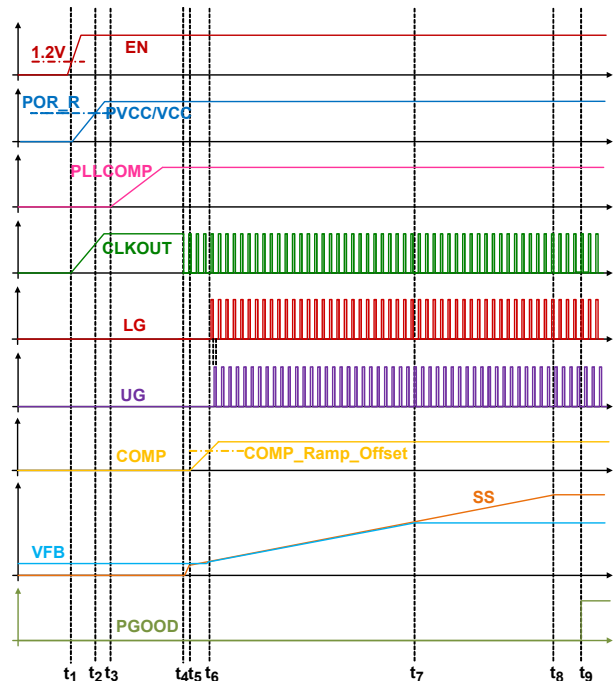

FIGURE 67. CIRCUIT INITIALIZATION AND SOFT-START
- There is no limit for the minimum voltage on the TRACK pin, but note the lower reference voltage and the lower voltage feedback regulation accuracy. Note the SS\_DONE signal is checking  $V_{REF\_TRK} \geq 0.3V$  as one of the conditions (refer to the  $t_g$ - $t_g$  description on page 31 and Figure 67 on page 30). Also, for the boost converter, the regulated output minimum voltage is usually the input voltage minus the upper MOSFET's body diode drop, in which case, the corresponding voltage at FB voltage is the minimum effective voltage for the  $V_{REF\_TRK}$  and  $V_{REF\_DAC}$ .
Before converter initialization, the EN pin voltage must be higher than its rising threshold and the PVCC/VCC pin must be higher than the rising POR threshold. When these conditions are met, the controller begins initialization and soft-start. Figure 67 shows the ISL78229 internal start-up timing diagram from the power-up to soft-start.
Assuming input voltage is applied to the VIN pin before  $t_1$  and VCC is connected to PVCC, as shown on Figure 67, the start-up procedure is described as follows:
Diode emulation occurs during  $t_5$ - $t_8$  (on Figure 67 on page 30), regardless of the DE/PHDRP operating modes (Table 2 on page 34).